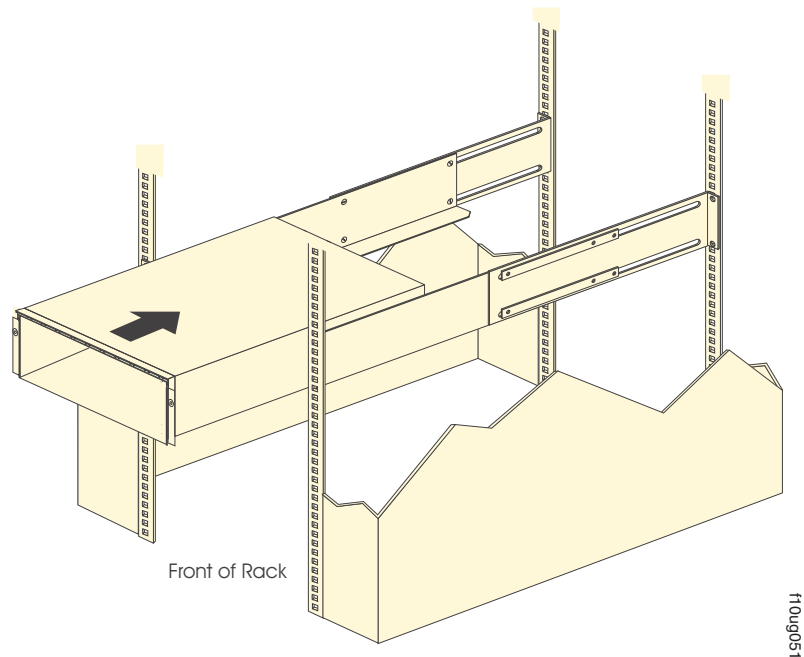

Figure 17. Installing the DS4100
- b. With help from another person, place the back of the storage server on the support rails. Slide the unit into the rack cabinet, as shown in Figure 17 on page 29.